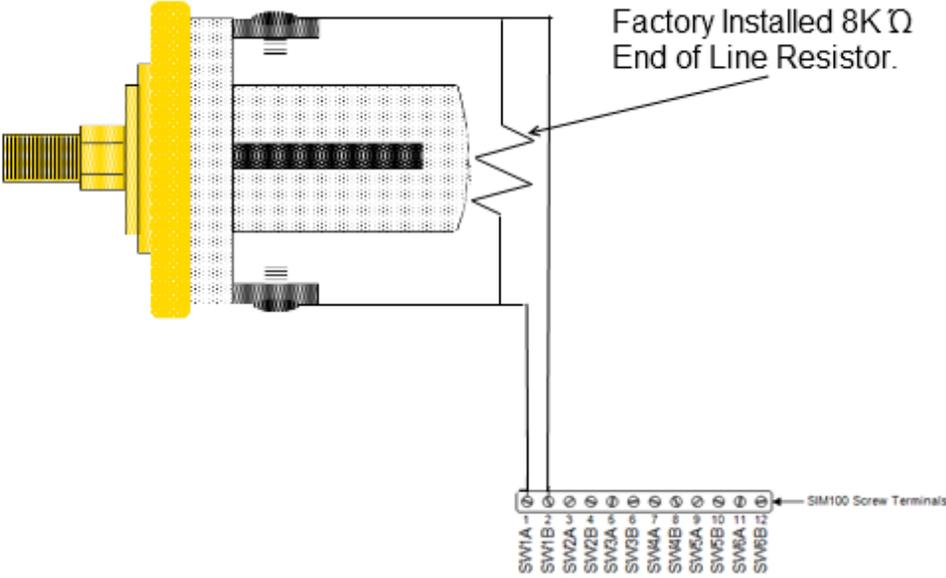

Figure 1 - Wiring Diagram
Please follow these instructions to connect the VS-07.0HG to the NMEA 2000® network via a Maretron SIM100 Switch Indicator Module. The wiring diagram appears in Figure 1 on the reverse side of this page. The diagram shows a connection to channel #1, but connections to other channels are similar.
1. Install two wires using the screws on the alarm contacts terminals from the VS-07.0HG to a free switch channel on the SIM100. To keep the end of line resistor in place, please do not remove the screws. The example in Figure 1 shows the VS-07.0HG connected to switch channel 1, terminals SW1A and SW1B.